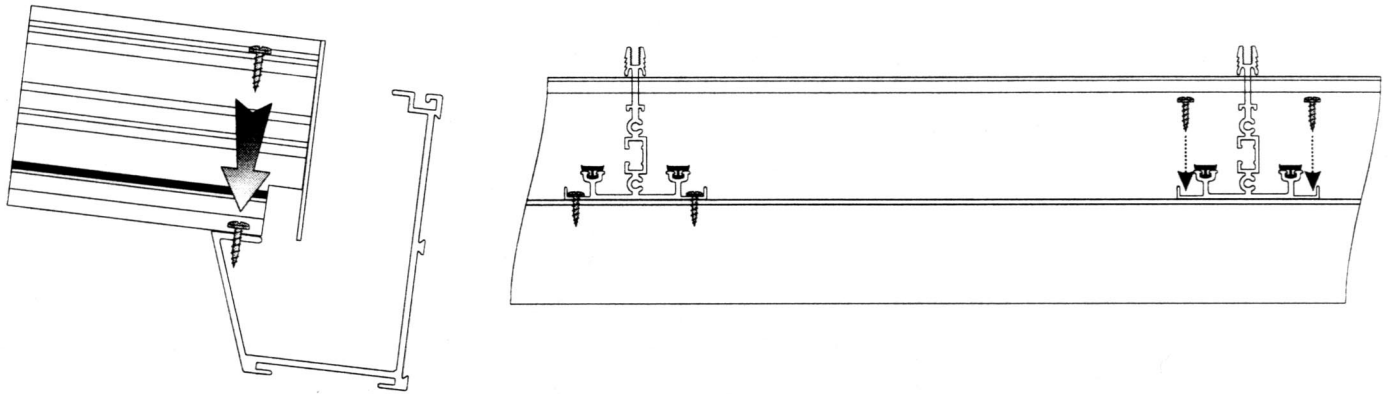

Figure 6 - Installing the Gutter Rail
4. To fasten it, you use the #10 x $\frac{3}{4}$ " Tek screws provided. Fasten two (2) to the end of each T-Bar at each side of the T-Bar center upright. When looking down from above the T-Bars you should position these fasteners at the approximate center of the horizontal leg of the Gutter Rail. (See Figure 6 - Installing the Gutter Rail)